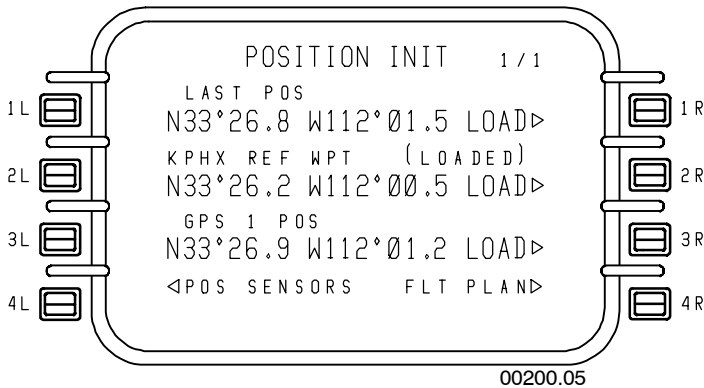

Figure 6-210
Once the correct coordinates are displayed, press the appropriate line select key (1R, 2R or 3R) to load the position. This is shown in Figure 6-210. The position is loaded to the FMS and transmitted to any long range sensors connected to the FMS.